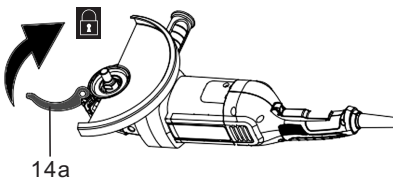

**Fig. 6**
2. Align the noses on the ring to the notches on the spindle collar, and then rotate the guard (Figs. 6, 7).